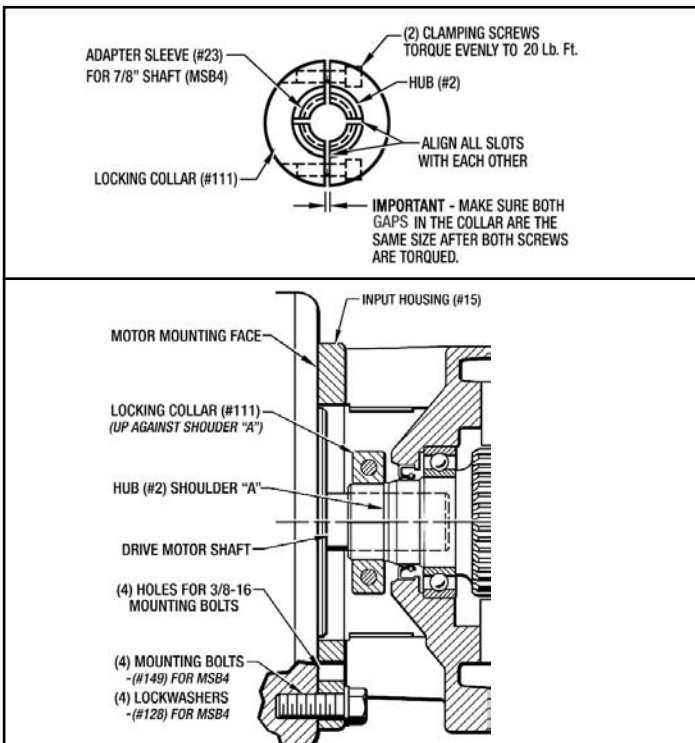

Figure 4 - Installing The MSB4 MagnaShear Motor Brake
● INSTALLING THE *MagnaShear* BRAKE (See Figure 4)
1. If you have an Adapter Sleeve (#23), make sure all the clamping slots are aligned with each other as shown in Figure 4.
If you don't have the Adapter Sleeve (#23), two of the slots in the Hub (#2) must be aligned with the (2) slots in the Clamping Collar (#111) as shown in Figure 4.
2. Push the Locking Collar (#111) back against the small shoulder "A" on the Hub (#2) as shown in Figure 4., then slide the Brake Unit onto the motor shaft as far as it will go. Align the (4) mounting holes with the motor and attach with (4) Mounting Bolts and (4) Mounting Lockwashers. Finger tighten the (4) bolts. **Make sure the brake is snug against the motor face.**